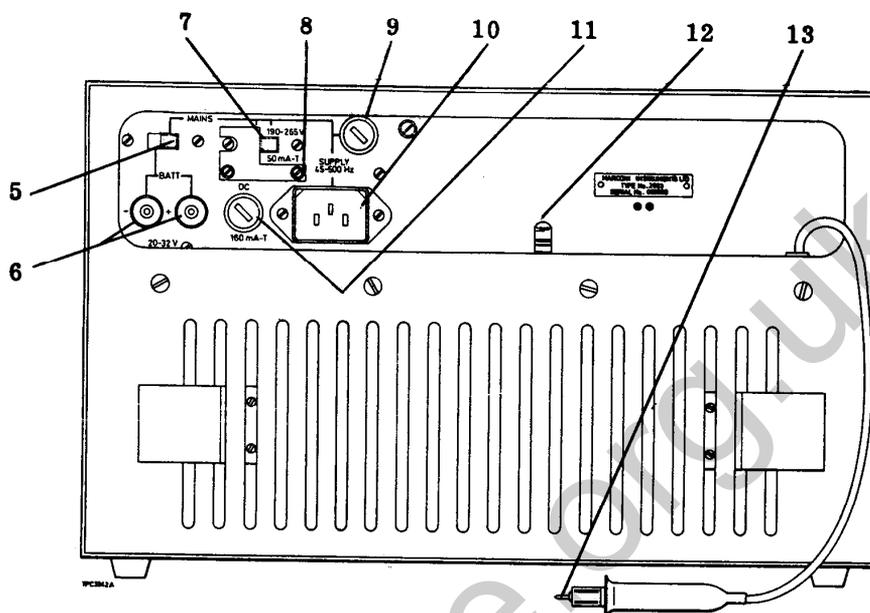

Fig. 2 Controls and connectors on rear panel
2. The controls and connectors on the rear panel of the voltmeter (Fig. 2) are as follows:-
- (5) MAINS/BATTERY switch. Set to position appropriate to supplies being used.
- (6) BATTERY supply terminals.
- (7) MAINS supply range switch. Selects a.c. voltage range.
- (8) BLANKING plate. For securing the mains supply range switch in the selected position.
- (9) AC FUSE. Value determined by a.c. supply voltage : 50 mA for 190 V to 265 V, 100 mA for 95 V to 132 V.
- (10) MAINS supply plug. For connecting the a.c. supply by means of the mains lead.
- (11) DC FUSE. 160 mA. Connected by mains/battery switch to battery supply or rectified a.c. supply line.